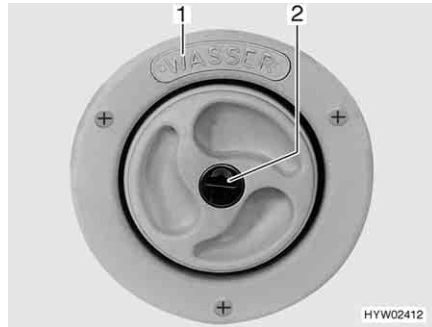
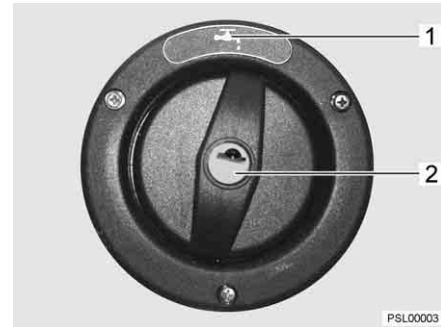

Fig. 34 Cap for the drinking water filler neck
Fig. 35 Cap for the drinking water filler neck (alternative)
- ▷ The drinking water filler neck is labelled by the word "WASSER" (water) (Fig. 34,1) or marked by the symbol "⚗" (Fig. 35,1).
- Insert the key in the locking cylinder (Fig. 34,2 or Fig. 35,2) and turn it in an anticlockwise direction.